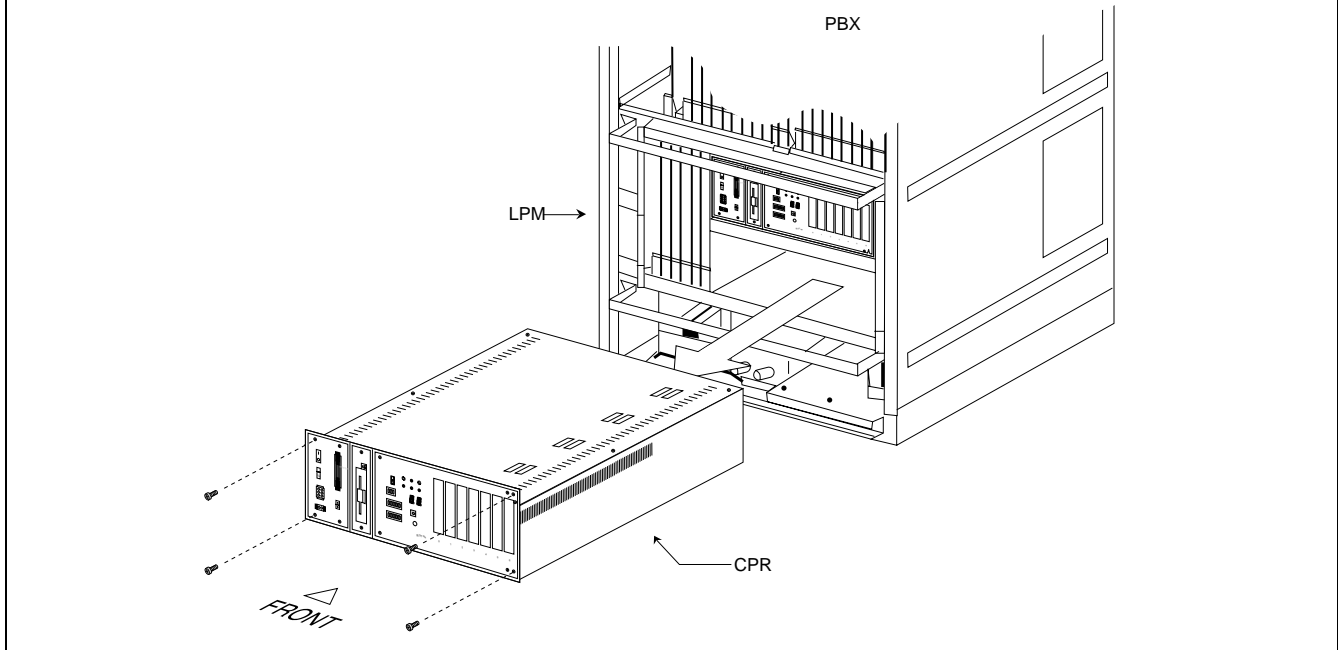
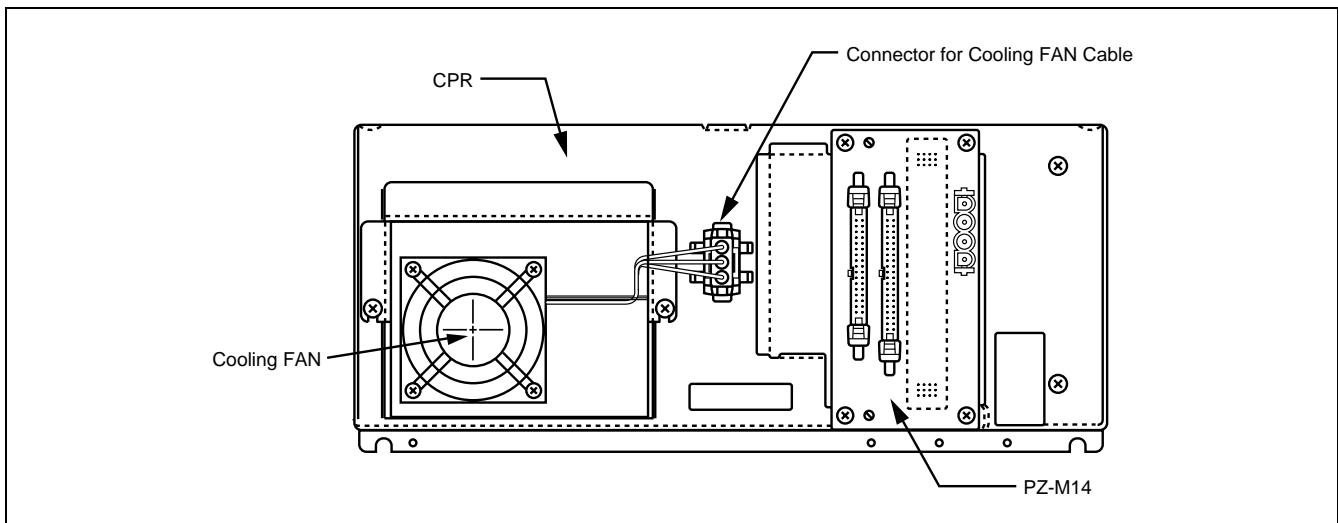
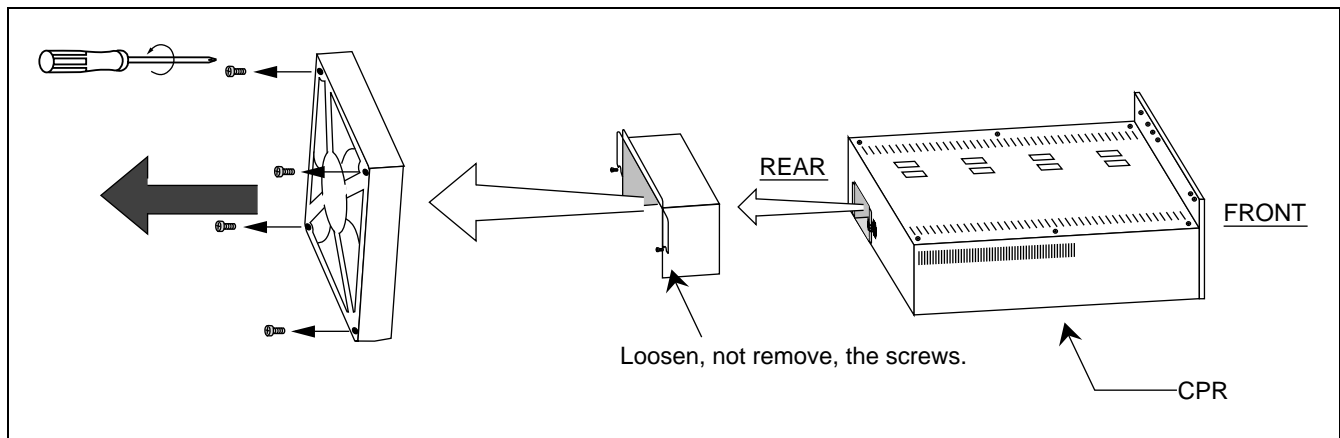

Figure 4-23 Extraction of CPR from LPM
Figure 4-24 Rear View of CPR
Figure 4-25 How to Remove the Cooling Fan
STEP 5 Remove the front bracket, and then take off the four screws fastened onto the CPU. (Refer to Figure 4-23.)
STEP 6 Extract the CPR from the LPM. (Refer to Figure 4-23.)
Note: *The Cooling Fan is located in the backbone of CPR and the cable connector lies in its right side. Refer to Figure 4-24.*
STEP 8 Loosen the two screws fastening the box that contains the fan inside. Slightly lift the box and remove it from the CPR. Refer to Figure 4-24 and Figure 4-25.
- STEP 9 Take off the four screws and remove the Cooling Fan from the CPR. Refer to Figure 4-25.
- STEP 10 Fasten the new Cooling Fan and CPR with the removed screws. Then, connect the fan cable again. Refer to Figure 4-25.
- STEP 11 Connect the fan cable again and insert the CPR back into the LPM. Refer to Figure 4-23 and Figure 4-24.